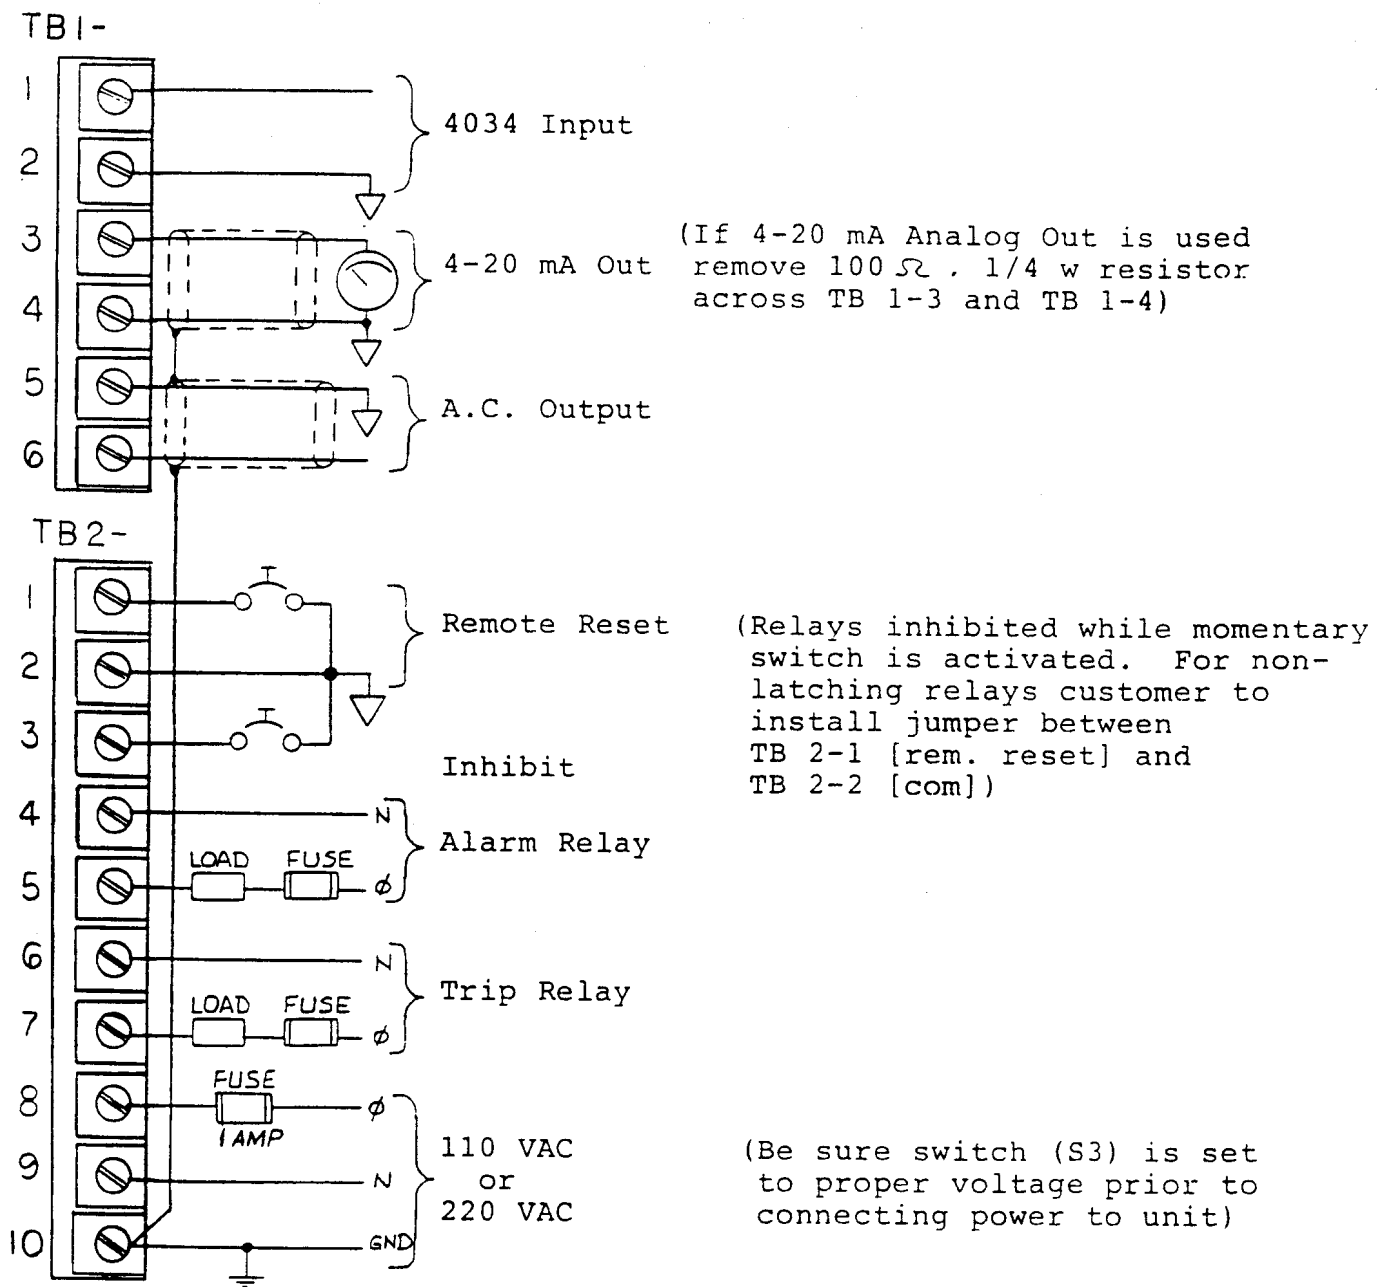

FIGURE 2 438D VIBRATION MONITOR CUSTOMER WIRING: FOR 4034 INPUT TRANSDUCER
Follow the appropriate wiring diagram as selected from Figures 2 through 7. Make special note of the following:
3. Make sure that the voltage input lines and the relay output lines are fused as noted on the wiring diagram (Figures 2 through 7).